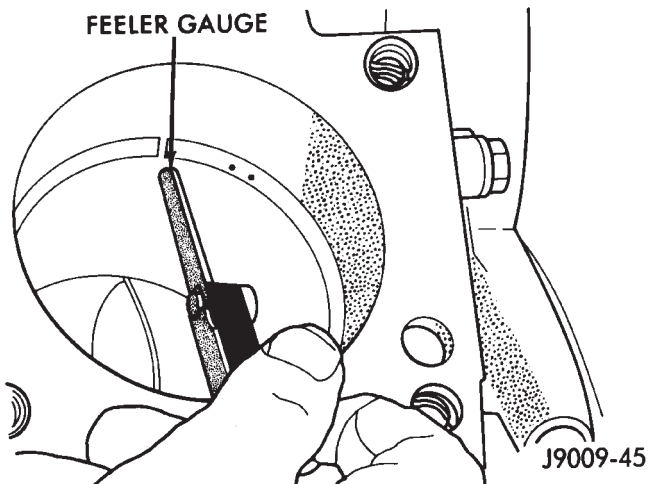

Fig. 12 Ring Gap Measurement
(4) Place ring in the cylinder bore and push down with inverted piston to position near lower end of the ring travel. Measure ring gap with a feeler gauge fitting snugly between ring ends (Fig. 12). The correct compression ring end gap is 0.25-0.51 mm (0.010-0.020 inch). The correct oil control ring end gap is 0.381-1.397 mm (0.015-0.055 inch).